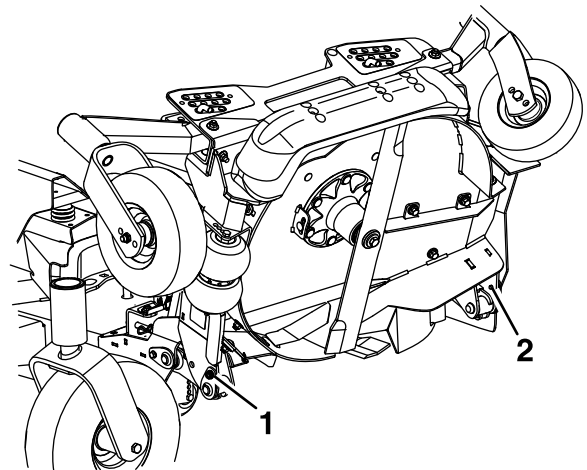
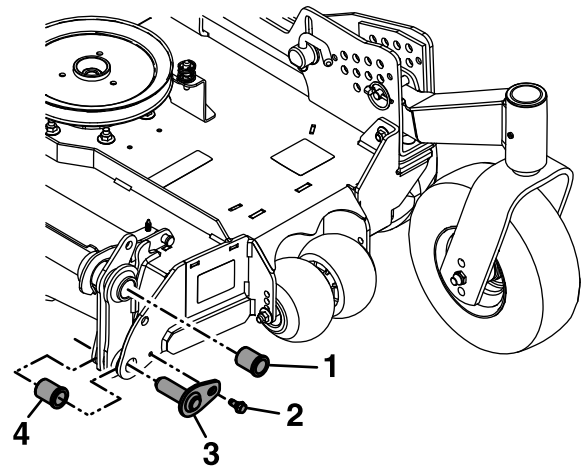

Figure 83
Figure 86
7. Loosen the bolts that secure the upper pivot pins to the deck but **do not** remove the bolts (Figure 83).
14. Remove the flanged bushings from the upper pivot points and clean the bore (Figure 86).
18. Remove and retain the lower pivot point bolts (Figure 83 and Figure 86).